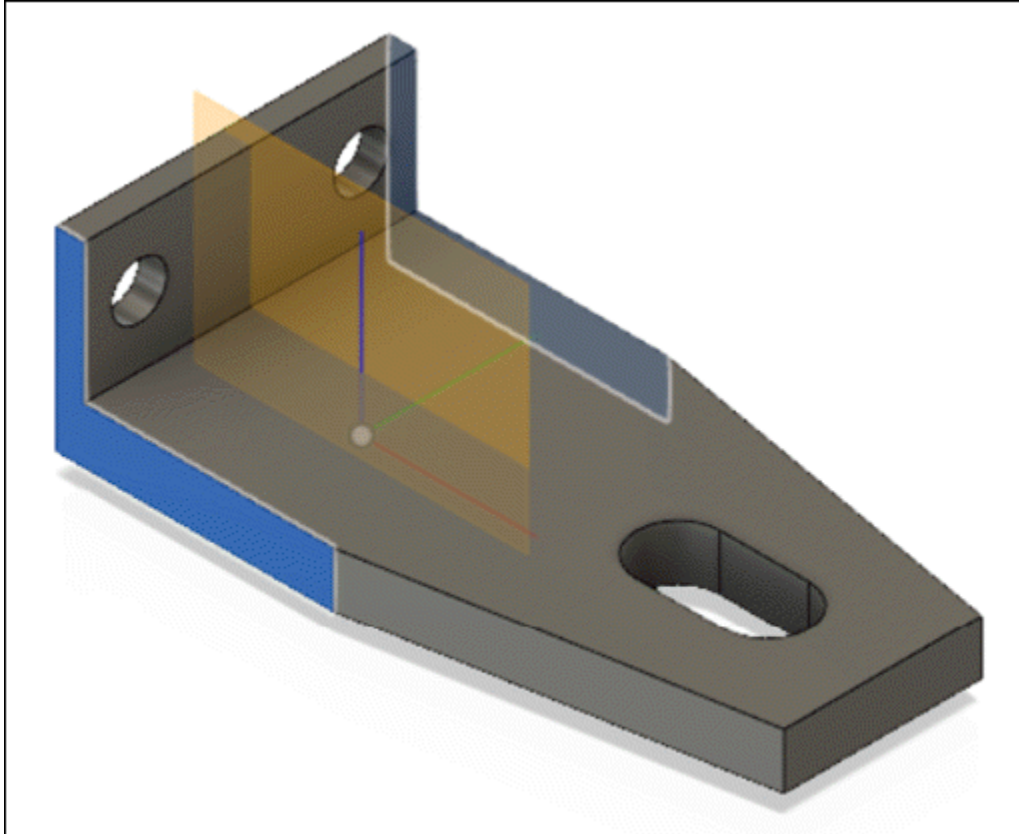

Figure-21. Midplane created
- The preview of midplane will be displayed. Click **OK** button from the **MIDPLANE** dialog box to complete the process; refer to Figure-21.